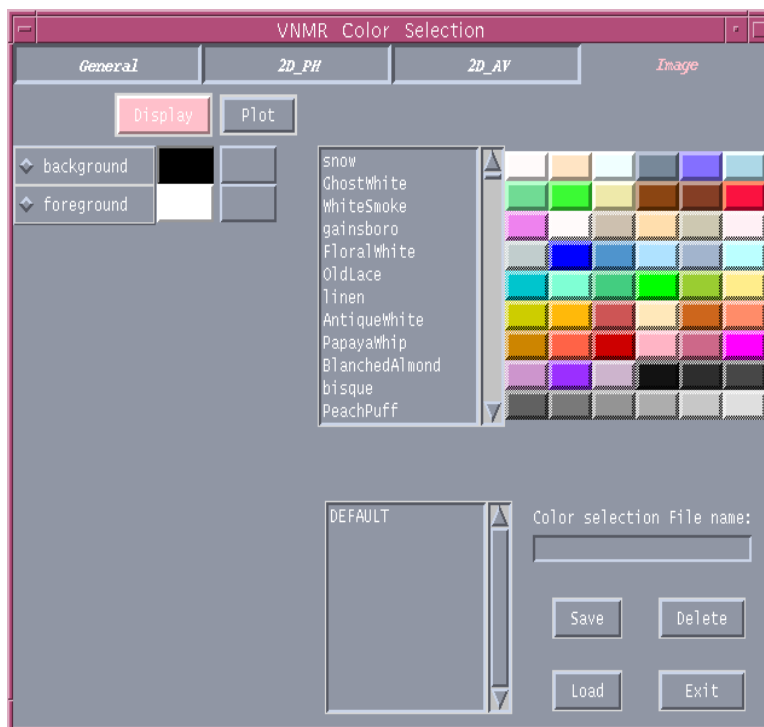

Figure 68. Image Color Selection Window
- The Image window for the display, shown in Figure 68, allows you to set the colors for the display background and foreground.